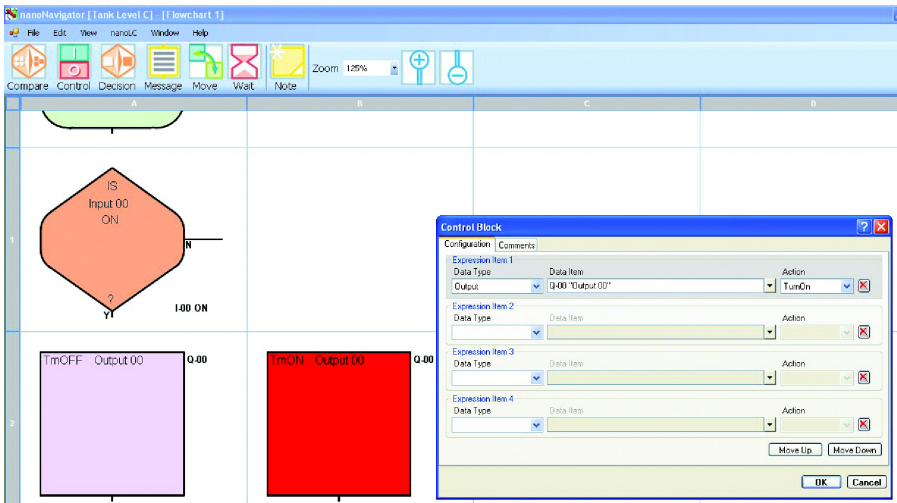

Figure 1-8 Control Block dialog box for cell B2
4. Enter data in the various fields in the dialog box as shown in Figure 1-8. Click the “OK” button when finished.